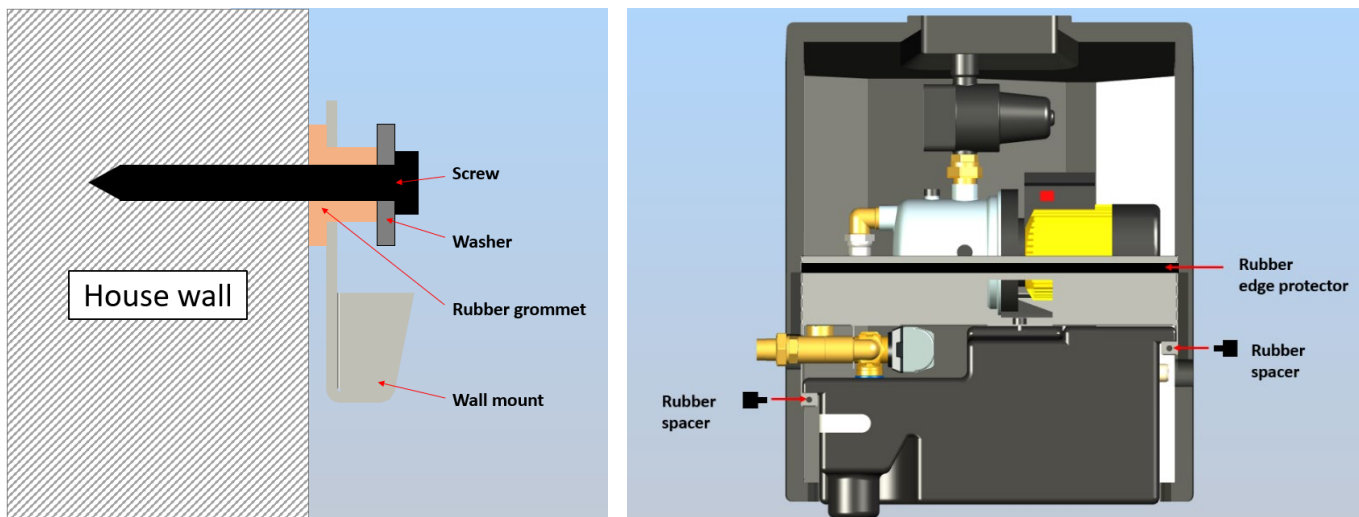

Figure 6: Rain Manager RM5 wall installation - left-hand picture / right-hand picture
- ▶ To install the wall mount with sound insulation, insert the 3 rubber grommets into the holes of the wall mount, with the thick portion of the grommet facing the house wall (see Figure 6: wall installation left-hand picture).
- ▶ Secure the wall mount with inserted rubber grommets using screws and washers (see Figure 6: wall installation left-hand picture). Ensure that
- ▶ Screw the two enclosed rubber spacers (M6 x 15 mm) into the threaded holes on the lower rear of the *Rain Manager* (see Figure 6: wall installation right-hand picture).